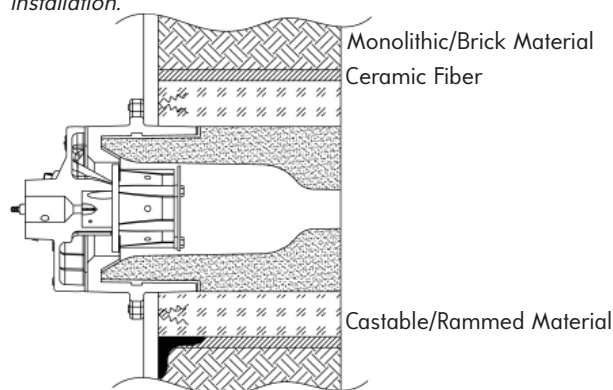

Figure 4: Cross section through a hard wall with square block refractory tile.
1. Cut square opening in furnace shell. Allow ¼" (6) clearance all the way around the tile and jacket.
2. Cut a hole for the burner tile and jacket in fiber wall. The hole should be approximately ½" (13) smaller than the jacket to allow the fiber to be tight up against the jacket.
3. Insert tile with metal jacket into the fiber wall. We suggest a metal jacket around the tile to support the refractory. Do not use a metal jacket for application higher than 982°C (1800°F). For temperatures above 982°C (1800°F), please see Figure 4 for the recommended tile installation.
Square Block Refractory Tile in Brick or Monolithic Wall Installation Instructions (see Figure 4)